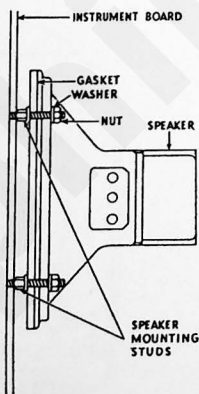

Figure 4
2. There are four small holes around the speaker opening in back of the instrument board. Screw the self tapping threaded studs (supplied in the instrument board adapter plate kit) in these holes. Hold the speaker in place behind the grille opening and fasten the speaker in place on the four studs with nuts and washers. (See Figure 4). The studs are Part No. 77-0400, and additional ones can be ordered from your Philco Distributor.
The installation in the DeSoto cars is the same as the installation in the Chrysler cars. (See figure 4).
The installation in the Dodge cars is the same as the installation in the Chrysler cars. (See figure 4).
The installation in the Plymouth cars is the same as the installation in the Chrysler cars. (See figure 4).